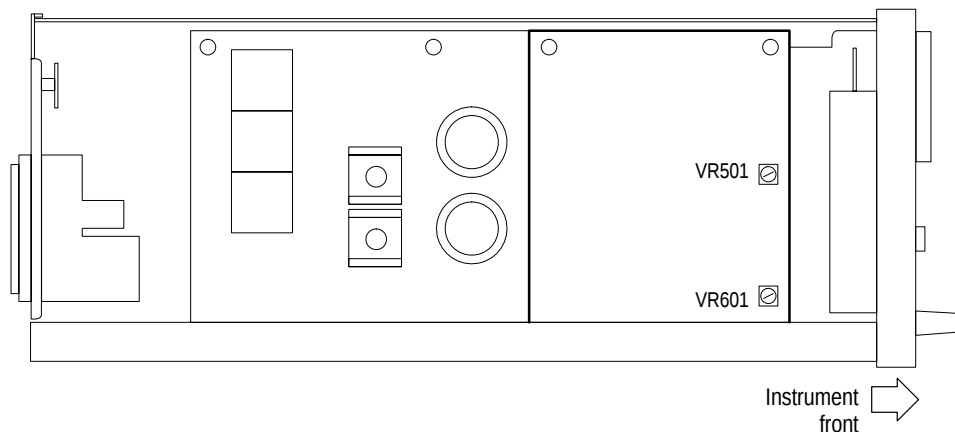

Figure 13: VR501, VR601 Adjustment Location
10. Adjust VR501 and VR601 to the settings listed in Table 11. (See Figure 13 for the adjustment locations.) Following the adjustment, enter the DMM reading on the power supply keypad and press (↵).
cL11 Voltage Full Scale Calibration. To calibrate the full-scale voltage, adjust VR601, VR501, or VR401 using the instructions in Table 14. Refer to Figures 13 and 14 for the adjustment locations.